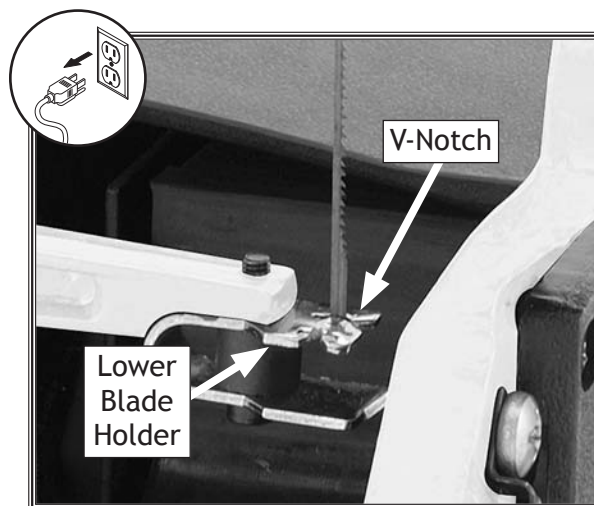

Figure 5. Pin-end blade properly mounted onto the lower blade holder.
5. Position the lower pin-ends underneath the V-notch in the lower blade holder, as shown in **Figure 5**.